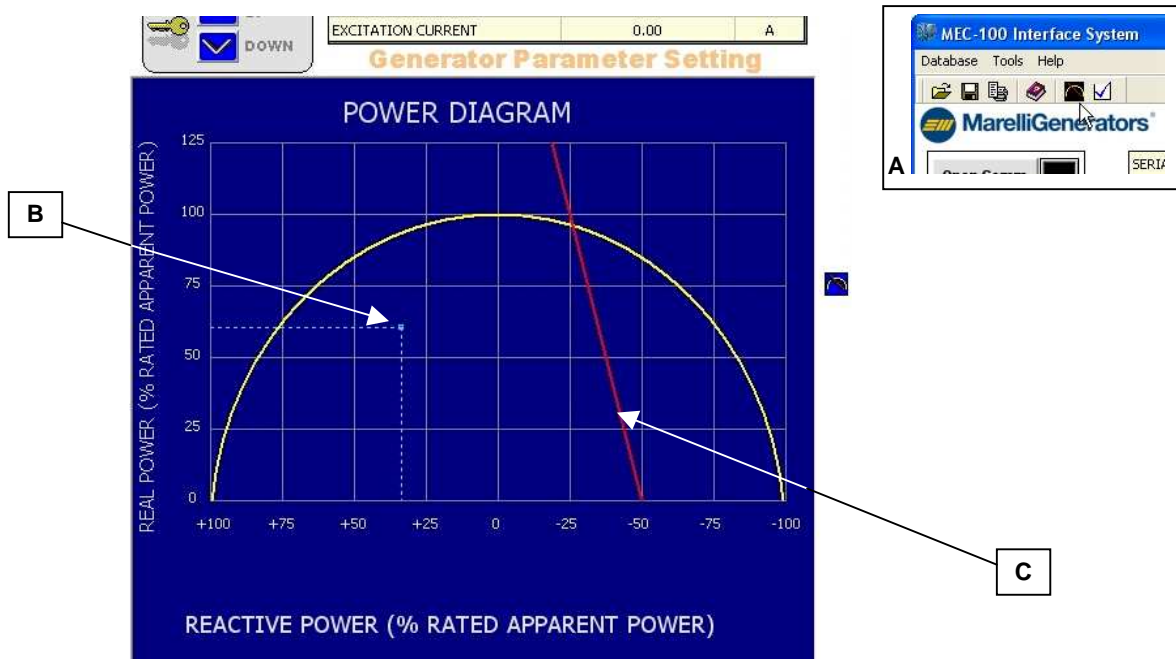

Fig. 5.8.7.a
In Fig. 5.8.7.a an image of the power diagram is shown.
-  The instantaneous indication of active and reactive power (B indicator in Fig. 5.8.7.a).
-  The visualisation of the curve defined by setting the under-excitation limiter (C indicator in Fig. 5.8.7.a, see Par. 3.7.3).
The A indicator in Fig. 5.8.7.a identifies the button for the selection of the *Power Diagram* graphical display mode; by clicking on it the described diagram replaces the *System Parameters* configuration window. By clicking again on the same button, the *System Parameters* configuration window reappears.